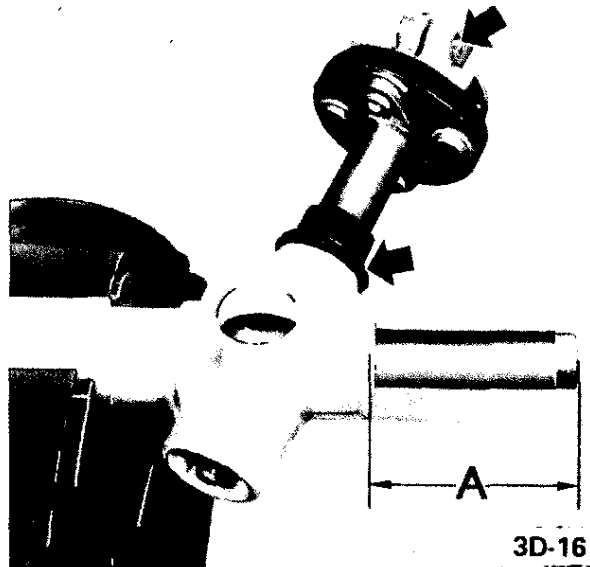

Figure 3D-16 - Steering Gear Housing With Rack
2. Insert long toothless end of rack into short end of housing until rack ends (A) protrude equally out of both ends of housing. See Figure 3D-16.
3. Reassemble pinion shaft into gear assembly so that spline in pinion shaft meshes with twelfth tooth of the rack. Use pinion mounting sleeve J-21712 during installation of pinion shaft to avoid damage to "O" ring in pinion bushing. When reassembling pinion shaft into gear housing, be sure that pinion is so positioned that bolt hole in pinion shaft flexible coupling is on top and parallel to the rack. See Figure 3D-16.